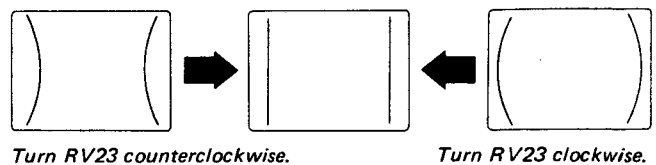

Fig. 5-161.
- (3) Adjust RV23 on the DA board for the H. pin distortion. (See Fig. 5-161.)